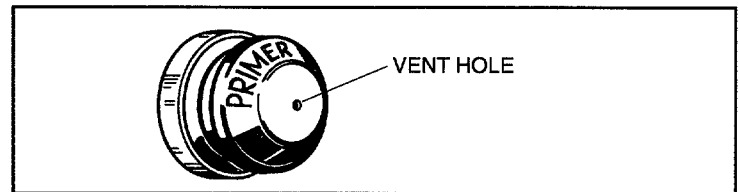

Figure 4
C. Push primer three times (see Figure 4). ALWAYS COVER "VENT HOLE" when pushing primer. See warm engine restart "NOTE" above.
E. Push primer two or three times, making sure to cover vent hole when pushing (see Figure 4). In temperatures below 15°F (-10°C), additional priming may be required.